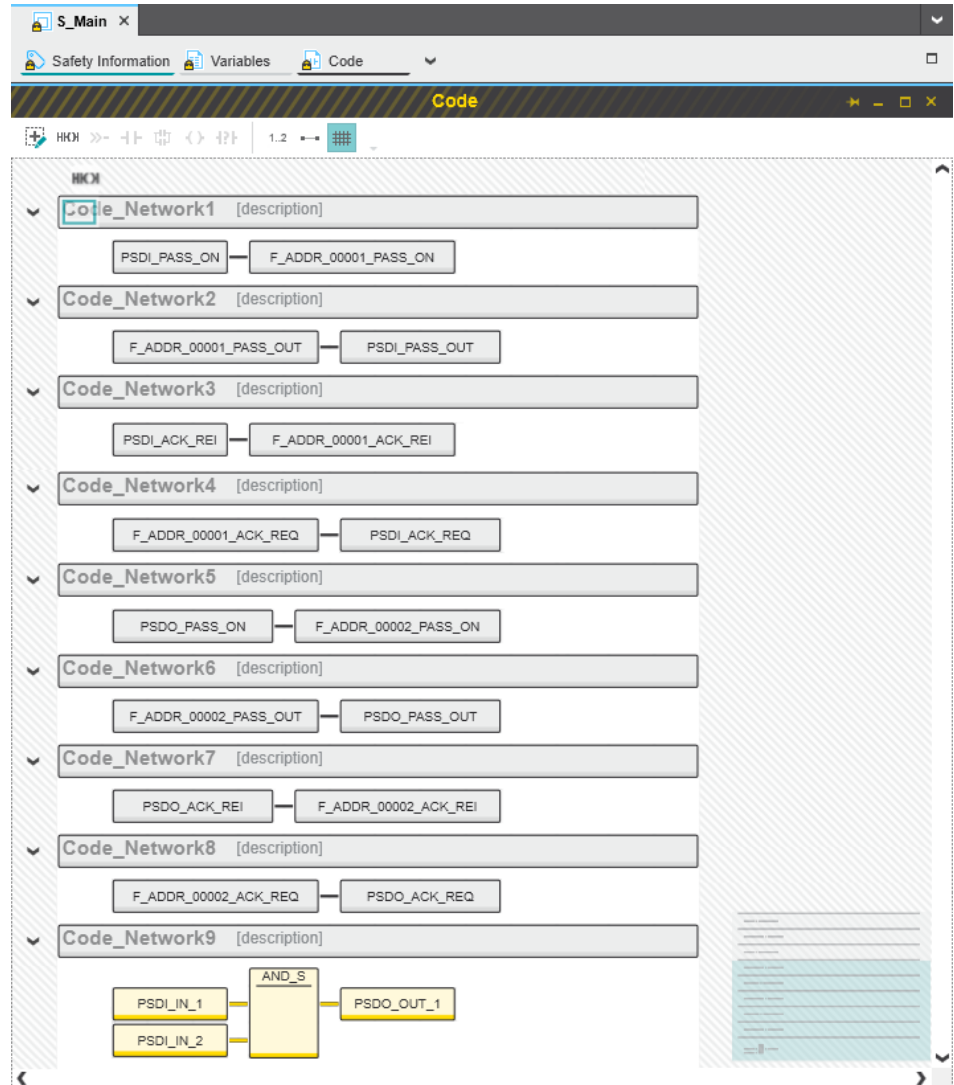

Figure 4-53 Safety-related example program
The safety-related example program in Figure 4-53 on page 138 involves safe logical AND-ing of two input variables. The result of the ANDing is connected to an output variable. The input/output variables are connected to process data in due course.
- Create the program as shown in Figure 4-53 on page 138.